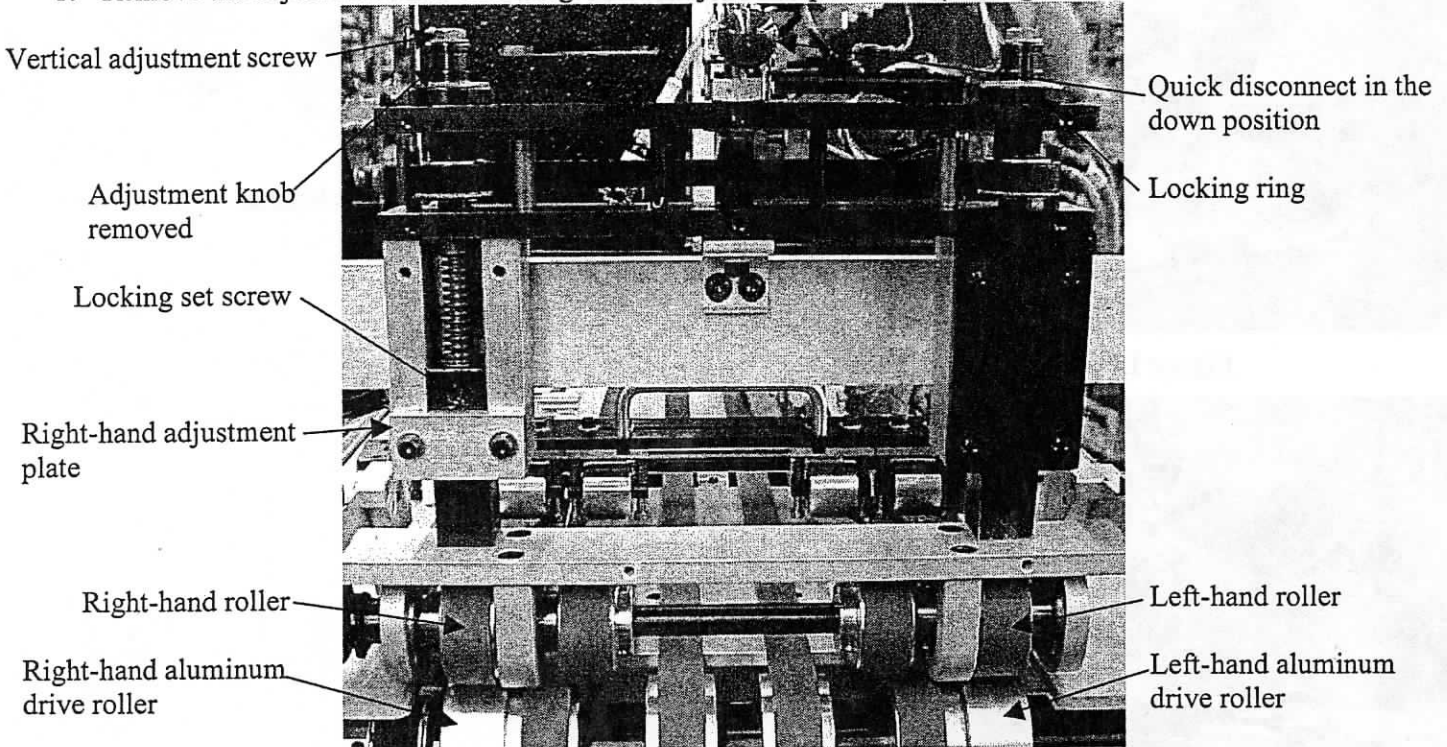

Figure 10
1. Remove the adjustment knob on the right-hand adjustment plate side. (see **Figure 10**).
3. Cut a 1"x 4" piece of 20 lb. typing paper to use as a feeler gage. Lay the paper down on the left-hand aluminum drive roller (see **Figure 10**). With the quick disconnect locked in the down position (see **Figure 10**) and the locking ring loose, adjust the left-hand roller down until it touches the paper. Enough tension should be on the paper to hold the paper snug but will still allow the paper to be pulled out without moving the belts.
5. Test the tension on the paper. The tension should be adjusted to be as close as possible on both sides. To adjust the tension on the paper, loosen the locking set screw (see **Figure 10**). The set screw has a brass plug between it and the adjusting screw to prevent damage to the adjustment screw threads. The locking set screw allows the roller to be adjusted by turning the vertical adjustment screw (see **Figure 10**).
7. After the tension is even on both sides tighten the locking set screw (see **Figure 10**). Replace the adjustment knob previously removed in step 1. Remove the right-hand adjustment plate and replace with the provided plate.
1. Make sure quick release lever is down and in the locked position (see **Figure 10**).
3. Adjust the outfeed rollers (see **Figure 10**) just above the thickness of the product to be run.
4. While moving the product back and forth between the upper and lower outfeed rollers (adjust the roller to be used for applying pressure to the tab) adjust the outfeed rollers down until there is a slight drag on the product (just enough to drive the product through, not enough to mash the product). Set your adjustment knob by turning the locking ring (see **Figure 10**) tight against the bottom plate.